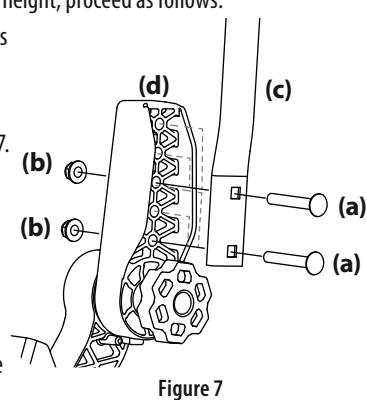

Figure 7
- Remove the two carriage screws (a) and two flange lock nuts (b) that secure the lapbar drive control lever (c) to the upper handle adjuster (d). See Figure 7.
- Move the lapbar drive control lever into one of the three available heights and secure in place with the carriage screws and flange lock nuts. See Figure 7.
4. If the lapbars do not line up after making the knob adjustment, loosen nuts (b), align lapbars and retighten nuts. Once this fine adjustment is made, the lapbars will align when using the knob adjustment. See Figure 7.